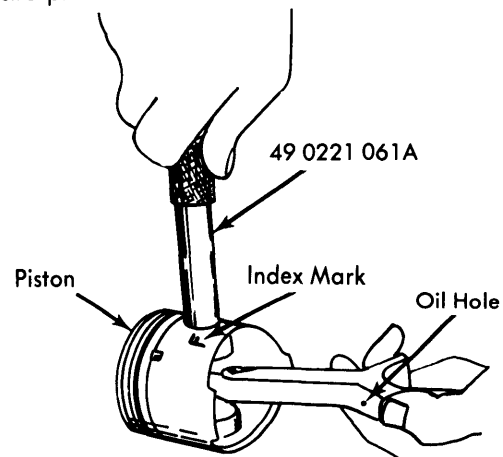

Fig. 7 Installing the Piston Pin
4) Begin reassembly by replacing piston pin circlip. Place connecting rod in piston so oil hole on connecting rod and piston index mark "F" are in relation. See Fig. 7. Using suitable piston pin installation tool, seat piston pin. Install second circlip.